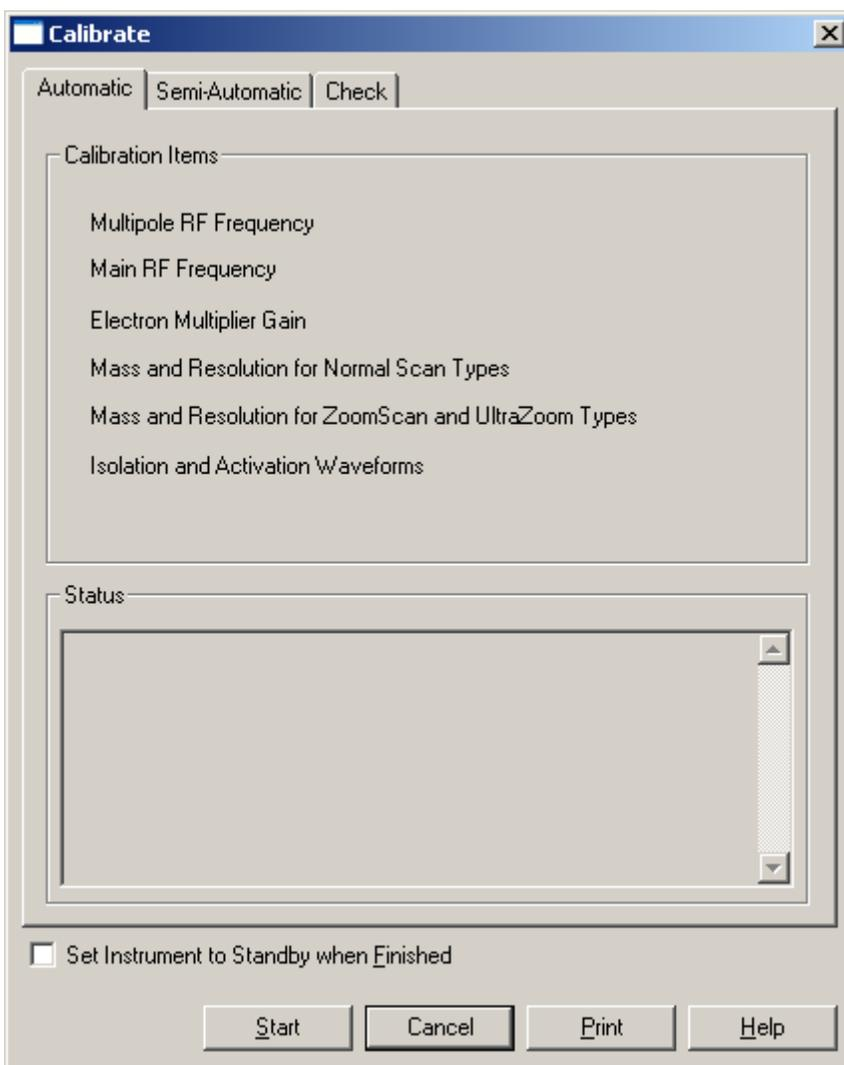

Figure 28. Calibrate dialog box, showing the Automatic calibration page
2. If necessary, click the **Automatic** tab to display the Automatic calibration page. See Figure 28.